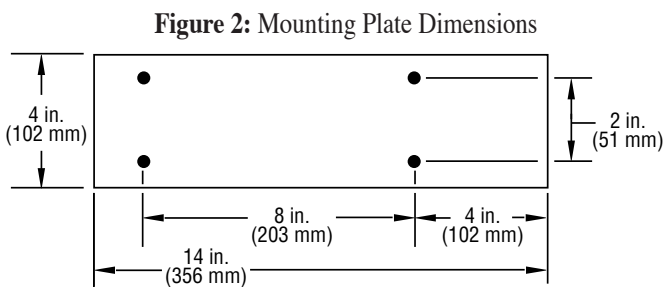

Figure 2: Mounting Plate Dimensions
6. Temporarily attach the CO3 mounting plate to the engine skid or base, or mark its location on the skid or base. See **Figure 2** for dimensions.